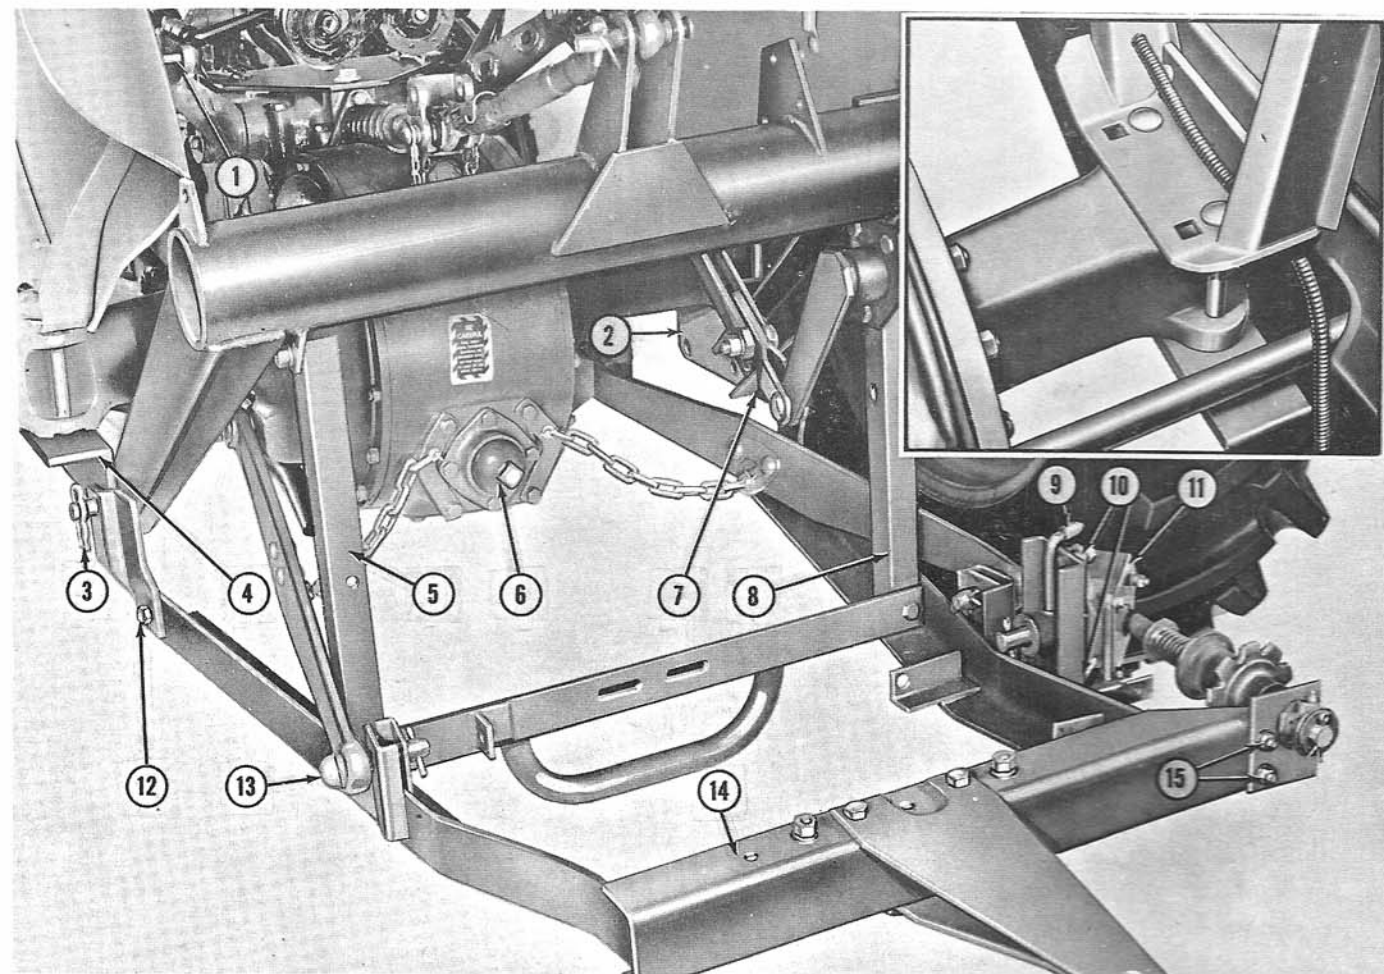

Figure 3
4. Install the mounting brackets (2) and (4), Figure 3, on the tractor fender bolts as shown, and secure with lock washers and nuts. On 8N, 9N, 2N, and NAA Tractors, install the bracket with the small hole in the center on the left side of the tractor. On Series 600 through 801 Ford Tractors, the bracket with the small hole must be on the right side of the tractor (2), Figure 3.
NOTE: On all Dexta Tractors it is necessary to drill new mounting holes in the right fender to move it one inch to the right as shown in the insert in Figure 3. This is necessary to provide clearance for the wagon elevator throw-out lever.
6. Detach the left lift rod at the top (1), Figure 3, and lean it against the tractor axle.
7. Attach the main frame to both tractor mounting brackets with pins and hairpins as shown at (3). Install the top link as shown and secure in the lower hole of the rocker.
8. Detach the right lift rod at the bottom and install the link extension (7), on the lift rod. Use the front hole in the link for 8N, 9N, 2N, and NAA tractors and the middle hole for Series 600 through 801 tractors.
9. Install the right and left vertical support angles (5) and (8), Figure 3, on the drawbar frame (14), with 1/2" x 1-1/4" hex head bolts, lock washers and nuts as shown. The right angle (9) is identified by the small bracket welded to it.
10. Attach the drawbar frame (14), Figure 3, to the main frame with 1/2" x 1-1/4" hex head bolts, lock washers and nuts (12), then raise the frame and attach the lower links with round head pins, flat washers and cotter pins (13). Insert the pins so that the heads are on the outside as shown. Attach the vertical support angles (5) and (8) to the main frame tube with the bolts, lock washers and nuts provided.
1. Attach the wagon elevator drive assembly (11), Figure 3, to the drawbar frame (14), with two 7/16" x 1-1/2" carriage bolts, flat washers, lock washers, and nuts (10).
2. Attach the drive assembly bearing bracket to the frame with two 3/8" x 1" hex head bolts, lock washers and nuts (15), Figure 3.
3. Assemble the pipe, coupling and lube fitting (9), Figure 3. Install the pipe assembly in the top of the wagon elevator drive shaft bearing on corn pickers, and in the underside of the bearing on corn harvesters.